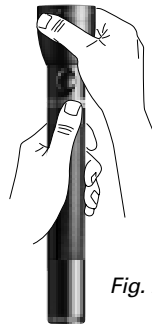

Fig. 2
2. Head The head is not removable; any attempt to do so will only damage its function. The head can be lowered to the Charging Ring Module for replacement of lamp (see page 11). **Focusing Beam:** patented cam-action focusing mechanism by Mag Instrument has been further enhanced (Fig. 2) to allow for continuous rotation of the head.